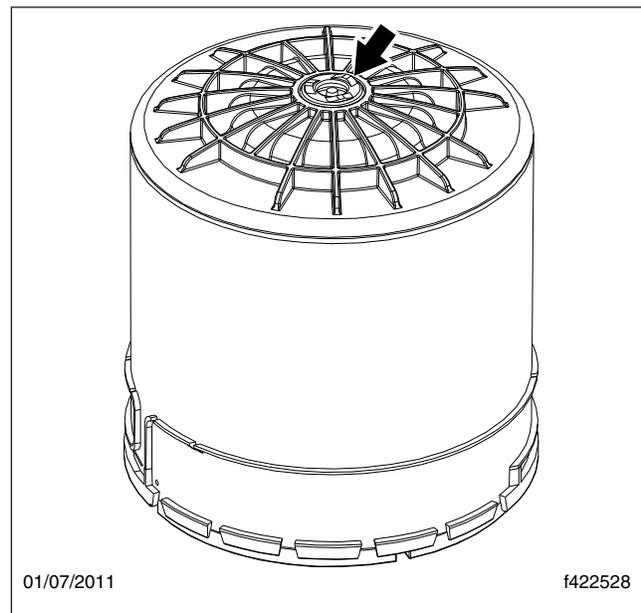

Fig. 3, New Cartridge with Rubber Spring
- Remove the new cartridge from the kit and make certain the rubber spring is attached. See Fig. 3.